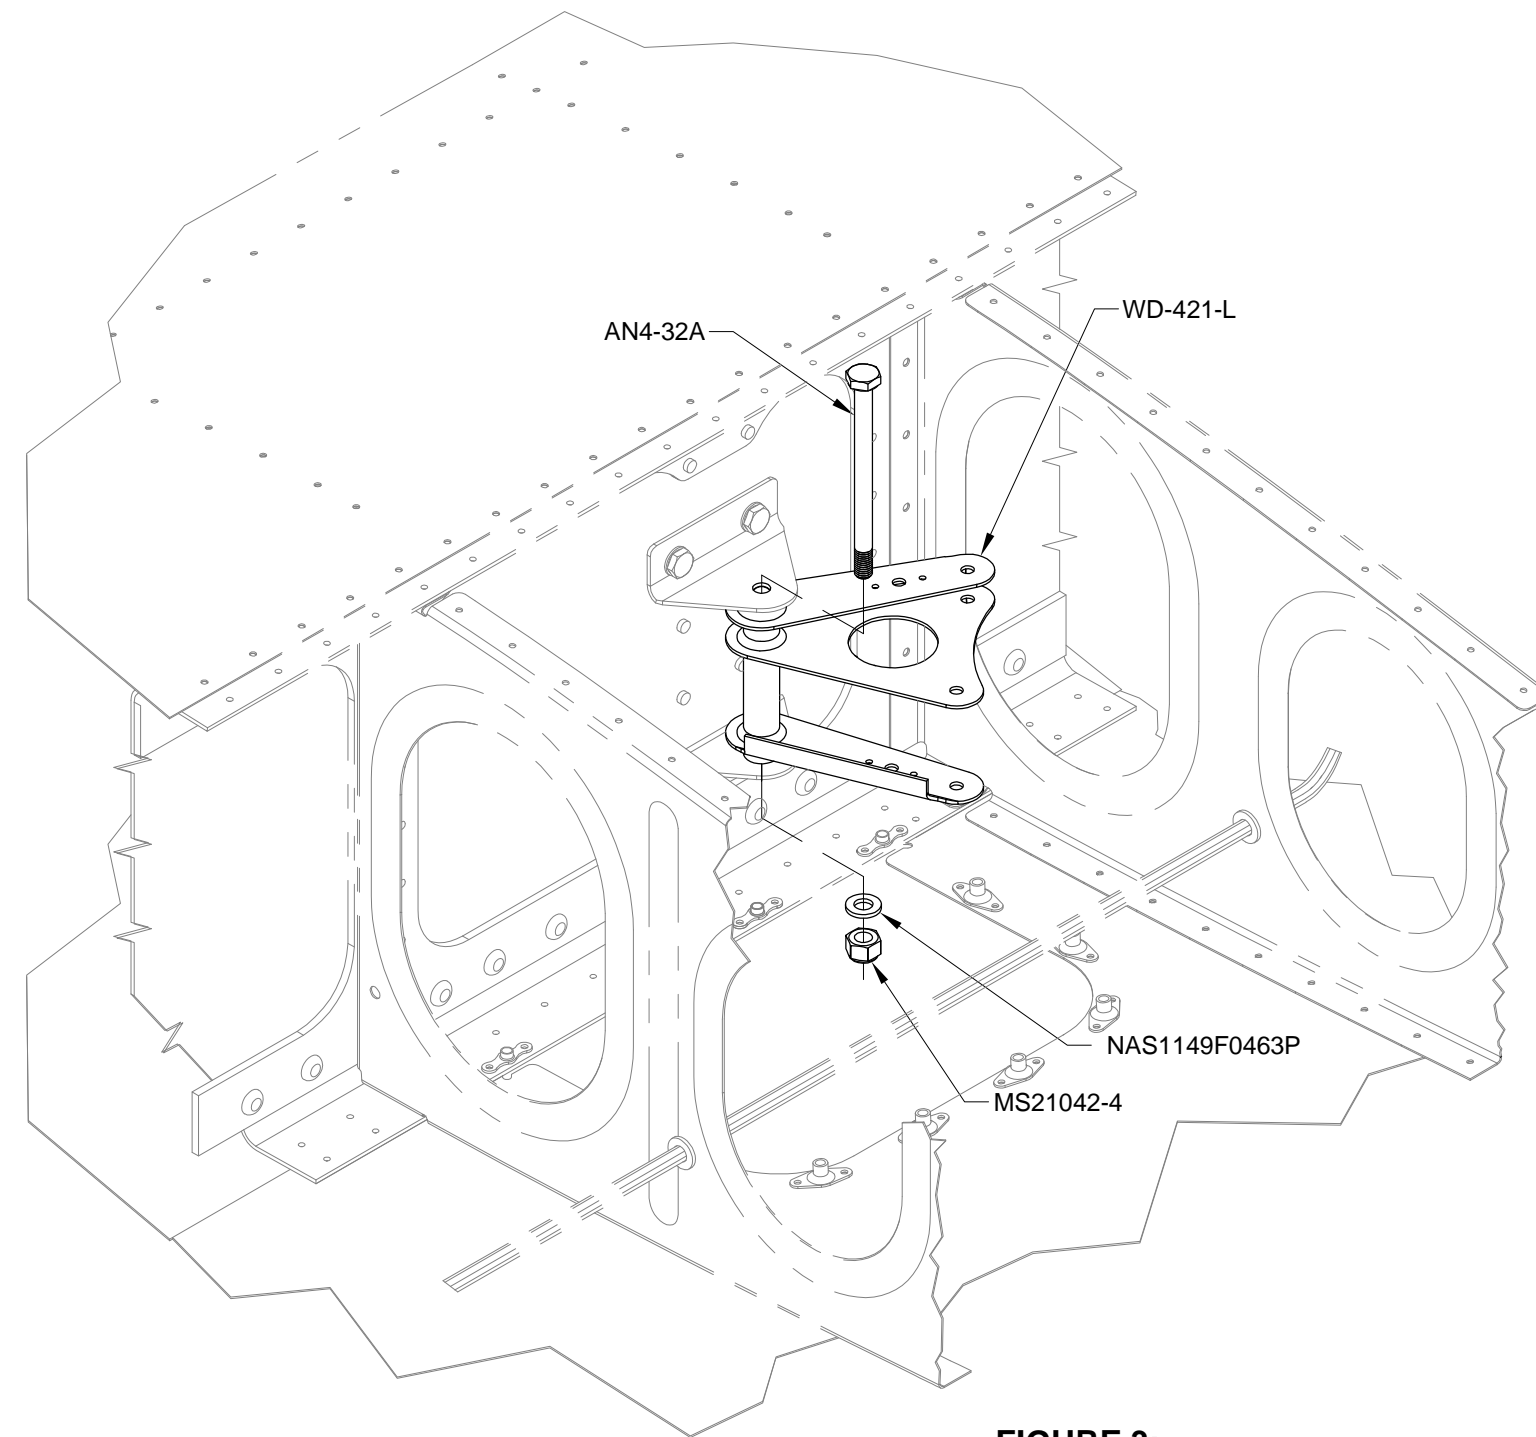

**FIGURE 2:
Deburr the ends of the aileron bellcrank bushings and the inside edge and ends of the pivot tubes in the aileron bellcrank so that they slide easily inside the WD-421 Aileron Bellcranks as shown in Figure 2.
Insert an aileron bellcrank bushing into each aileron bellcrank as shown in Figure 2.
Step 3: Install the WD-421-L Aileron Bellcrank and BUSH BS-.245 X .375 X 2.781 Aileron Bellcrank Bushing subassembly into the left wing as shown in Figure 2.